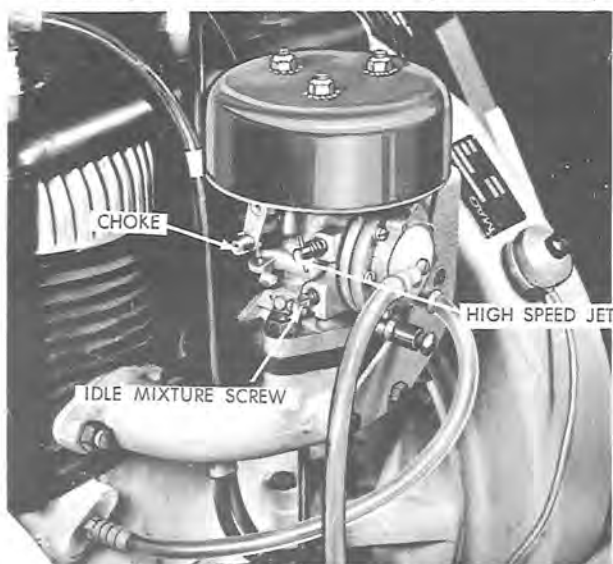
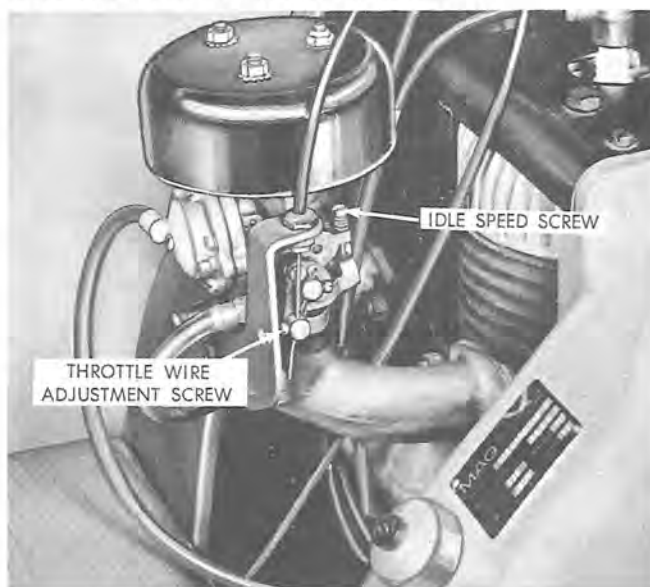

Figure 8
Figure 9
**IT IS IMPORTANT NOT TO FORCE ADJUSTMENTS INTO SEATS.** The single carburetor used is a Tillotson Model HR Carburetor. For best results the engine should be warm when final carburetor adjustments are made. Figure 8 shows the left side of the carburetor and Figure 9 shows the right side.
2. **STARTING A WARM ENGINE**—It should be started with the choke open. The choke is shown in Figure 8.
3. **TO ADJUST CARBURETOR**—Turn in high speed jet all the way, (**DO NOT FORCE**) Then open  $1\frac{1}{4}$  turns as shown in Figure 8.
Turn in the idle mixture screw all the way (**DO NOT FORCE**). Open one full turn as shown in Figure 8. This adjustment controls the mixture at idling speeds. A lean idle mixture will cause poor acceleration. Adjust the idle speed screw shown in Figure 9. Keep idle
**NOTE:** Figure 9 also shows a throttle wire adjustment collar and screw. Remove carburetor air cleaner. Depress the throttle control. If this does not open the throttle plate completely, loosen the throttle wire adjustment screw and readjust to open throttle.